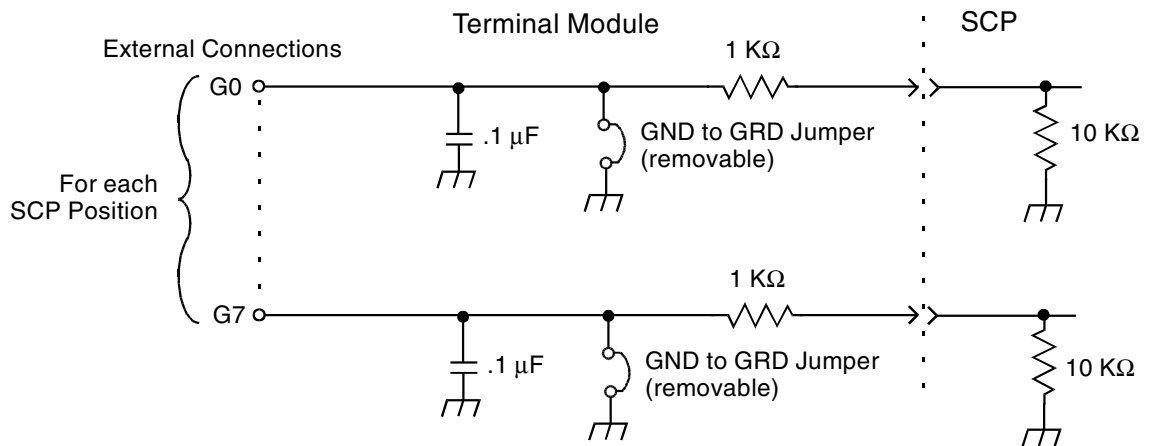

Figure 2-10. GRD/GND Circuitry on Terminal Module
3. Connect the shield of each wiring pair to the corresponding Guard (G) terminal on the Terminal Module (see Figure 2-10 for schematic of Guard to Ground circuitry on the Terminal Module).